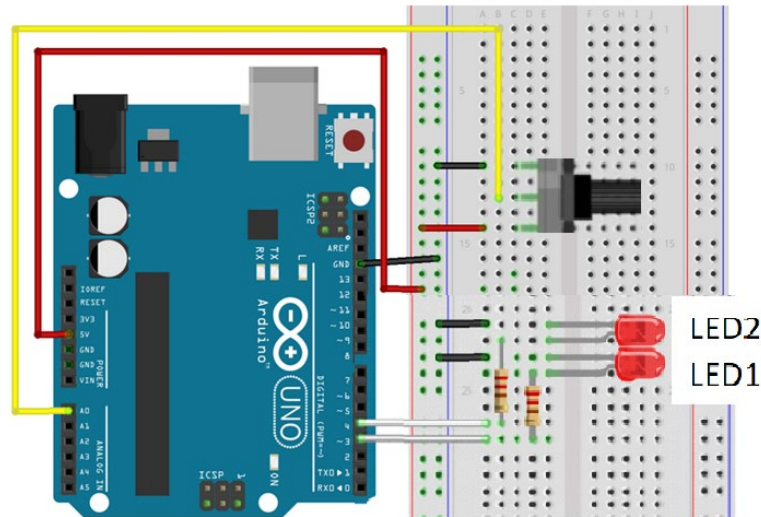

Figure 1. Two LEDs and a potentiometer connected to Atmega328P
- Construct a circuit, as shown in Fig. 1, adding two LEDs and a potentiometer to an analog input. Note that the middle pin of the potentiometer is the voltage-divider which varies between 0V and 5V.